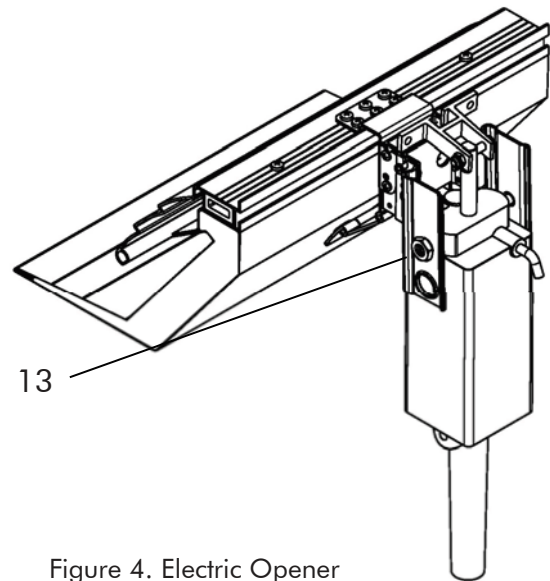

Figure 4. Electric Opener
Align the base plate (2) with the center of the refurb frame (10). Fasten with the self-drilling screws (1) into the drill hole. Attach the supplied bracket (6) to electric opener and secure with M6 Bolt. (13) Slide opener into base plate (2) and secure with hinge pins (Fig. 4 +5).